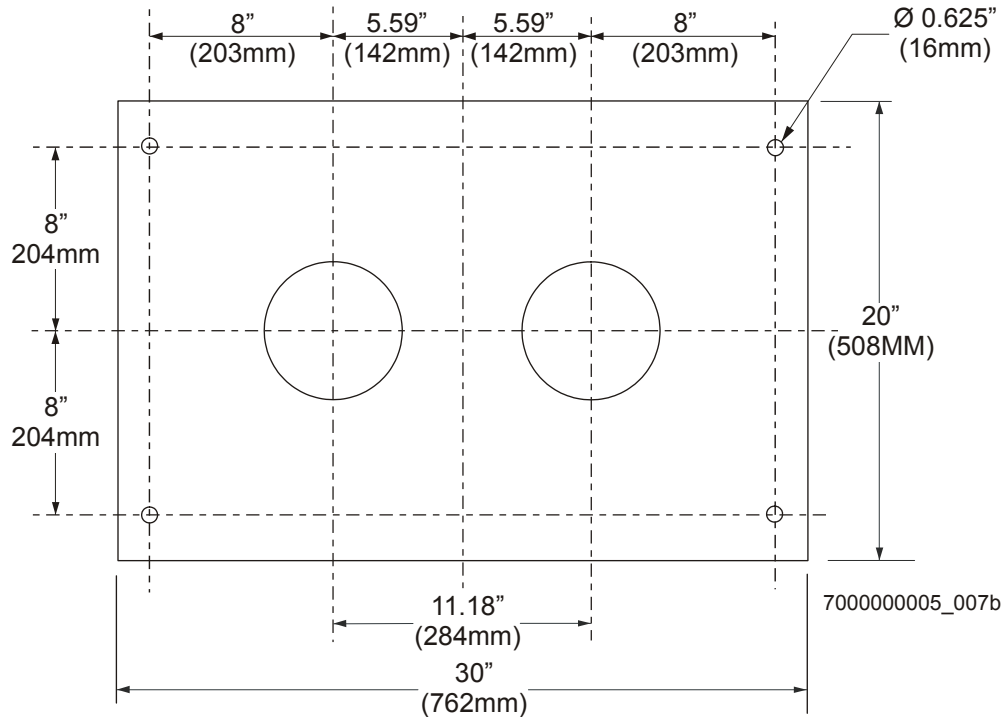

FIGURE 2-9 Typical Tandem Superstructure Base Plate
- F. Superstructure base plate furnished by the owner (see FIGURE 2-9)